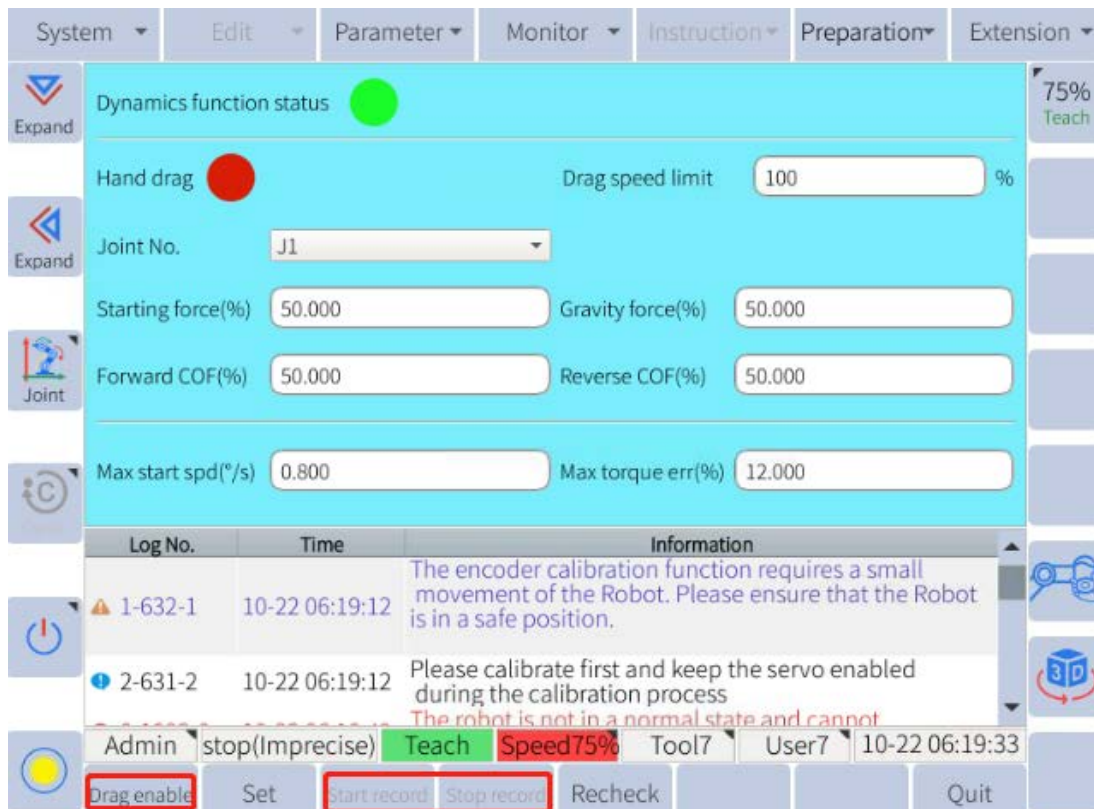

Figure 6-82 : Drag and teach
1. Click **Preparation -> Hand drag** to enter the drag teaching interface, as shown in **Figure 6-82**